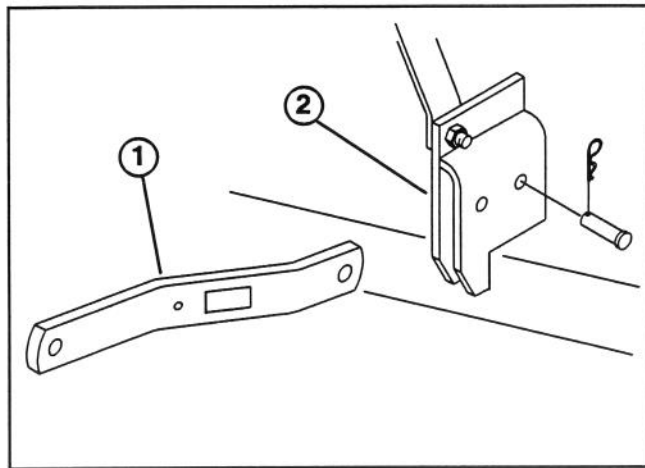

Figure 8
2. Mount lower lift arms to rear holes in front deck brackets with clevis pins and hair pin cotters, previously removed (Fig. 8).